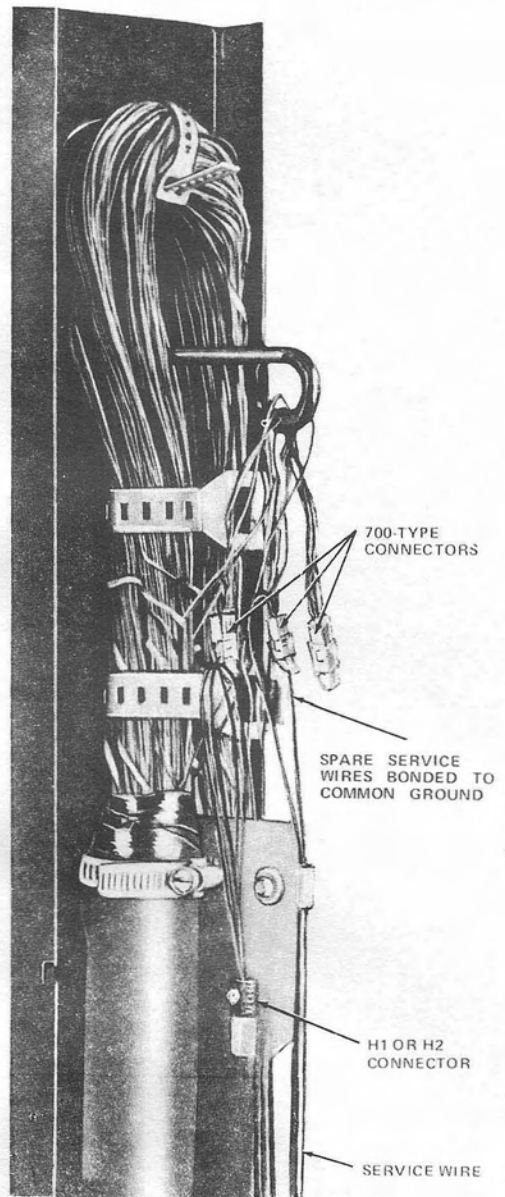

Fig. 39—Service Wire Installed—UP-200 Cable Closure
6.15 Terminate the service wire as shown in Fig. 39.